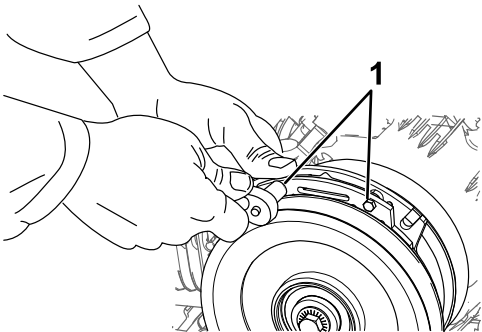

Figure 64
- A. Loosen both brake mounting bolts 1/2 to 1 full turn as shown in Figure 64.